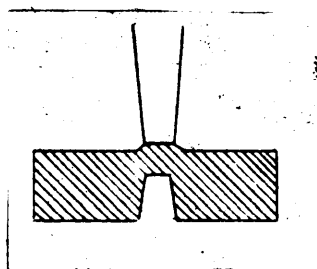

Figure 2.
5. Turn the stock over, and place punch opposite the first punch, if metal is red hot, there will be a dark spot. Drive the punch back through to the other side. (Figure 2).